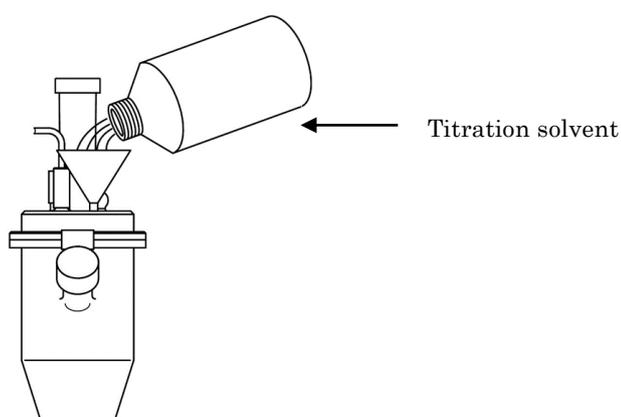
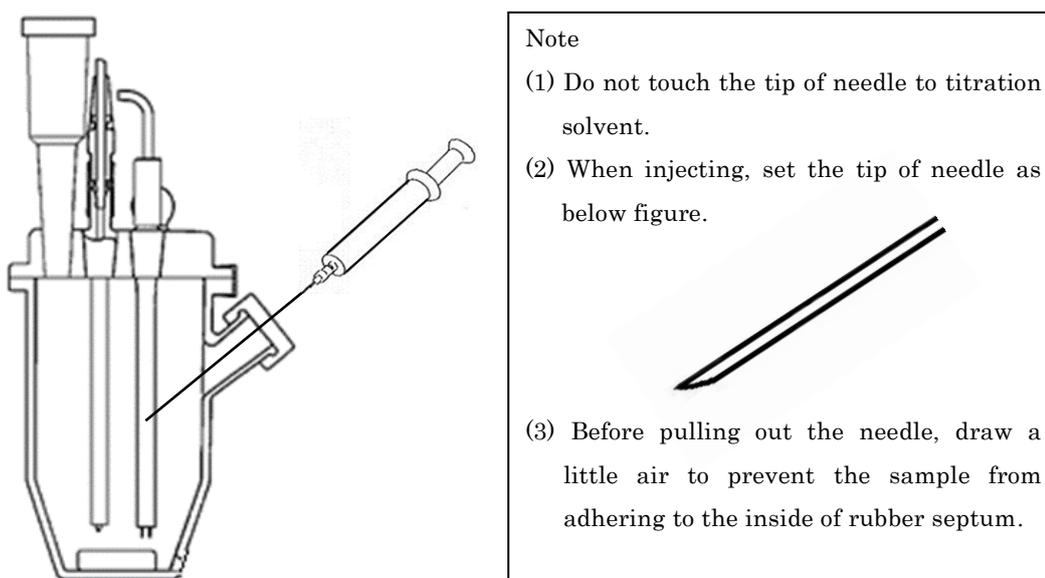
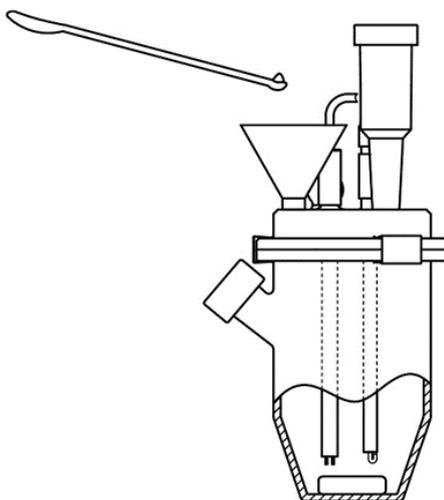

Fig.3.1 Preparation of the reagents
Fig.3.2 Injection of sample
Fig.3.3 Introduction of sample with powder funnel
- (1) Fill 50 mL of titration solvent into the titration cell as shown in Fig.3.1.
- (2) Start blanking to attain stable background.
- (3) Draw DI water into syringe. Then, weigh the syringe and record its read (Size 1 [g]).
- (4) Inject a few drops of water from rubber septum of titration cell as shown in Fig.3.2. Approximate amount of addition is 20-40 mg. (40-60 mg when using Composite 5 for KF titrant)
- (5) Start titration. Measurement parameter is shown in Table 4.1.
- (6) Weigh the syringe again and record its read (Size 2 [g]). The difference of (Size 1-Size 2 [g]) is set as sample size.
- (7) Repeat the measurement 3 times and obtain an average value for factor of KF titrant.
- (3) Start titration. Measurement parameter is shown in Table 4.2.
- (3) Put a sample container, powder funnel and spoon on the balance. Record its read (Size 1 [g]).
- (4) Open the glass stopper of titration cell lid to introduce the sample with powder funnel as shown in Fig.3.3.
- (5) Start titration. First, 10 mL of KF titrant is dispensed into the cell and then titrated with water-in-methanol solution. Measurement parameter is shown in Table 4.3. Set the factors measured in section 3.1 and 3.2 for the KF reagent and the water-in-methanol solution.
- (6) Weigh the sample container, powder funnel and spoon again and record its read (Size 2 [g]). The difference of (Size 1-Size 2 [g]) is set as sample size.
- (3) Open the glass stopper of titration cell lid and introduce the funnel. Without adding the sample, leave to stand for the same amount of time as it takes to add the sample in section 3.3, then attach the stopper.
- (4) Start titration. Blank test is performed with forward-titration. Measurement parameter is shown in Table 4.4.
- (5) Set the result of titrant volume obtained in the blank test as the blank value for the measurement conditions of the sample.